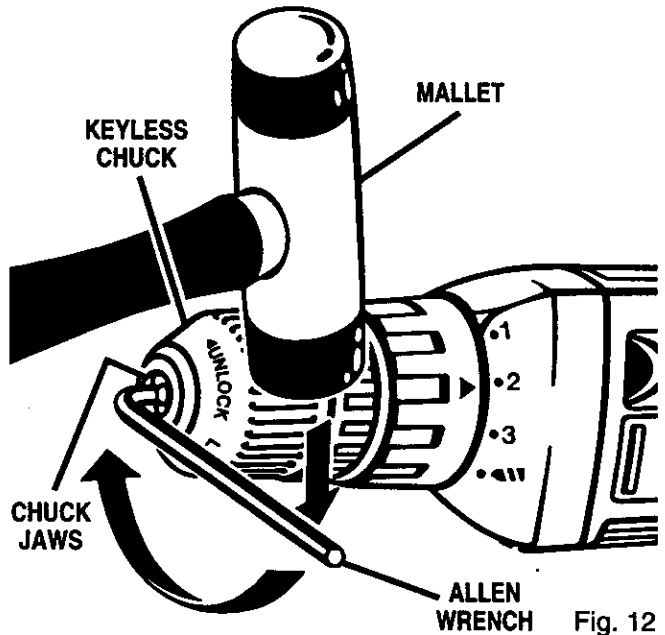

Fig. 12
See Figures 12, 13, and 14.
- Tap the allen wrench sharply with a mallet in a clockwise direction. See Figure 12. This will loosen the screw in the chuck for easy removal.